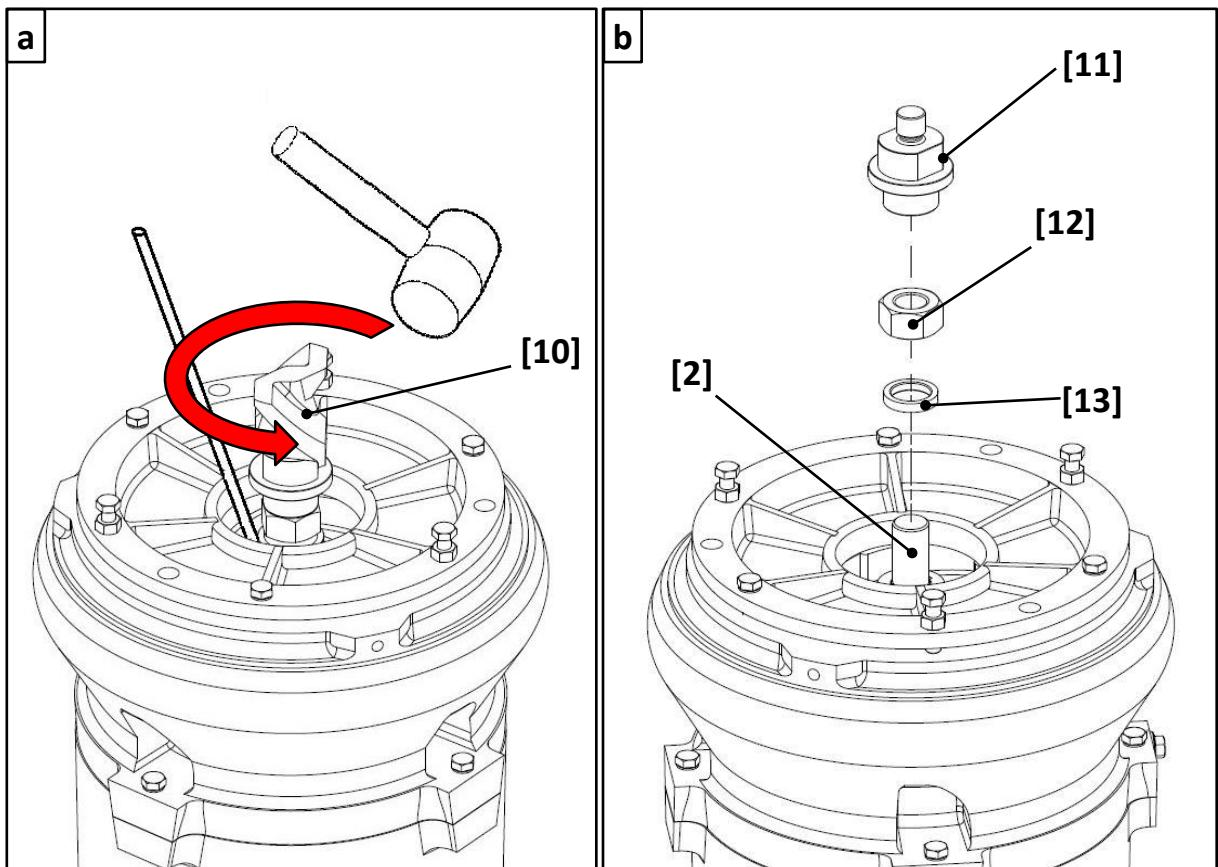

Fig. 29
- maintaining blocked the impeller (e. g. by inserting an iron rod), unscrew the agitator [10] by hitting smartly in counterclockwise direction with a hammer (see **Fig. 29**);